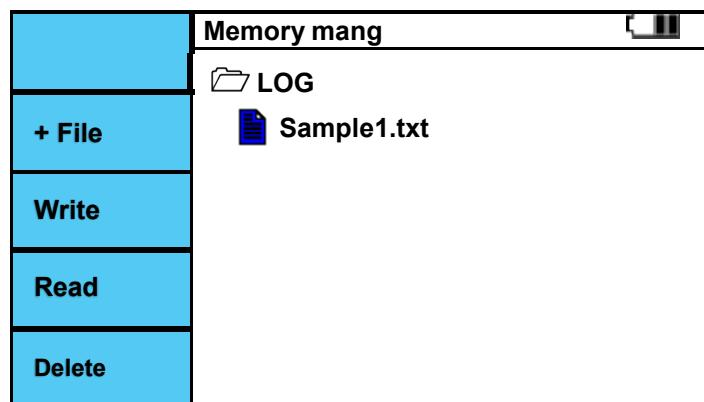

Figure 6.10.7 Adaptor/ Current Clamp Logging Create File.
Create a file name and press the button. A file is generated as shown in Figure 6.10.7. The extension is automatically generated as \*.txt.
- VI. If a file has been created, use the up and down buttons to select the file as shown in Figure 6.10.7.